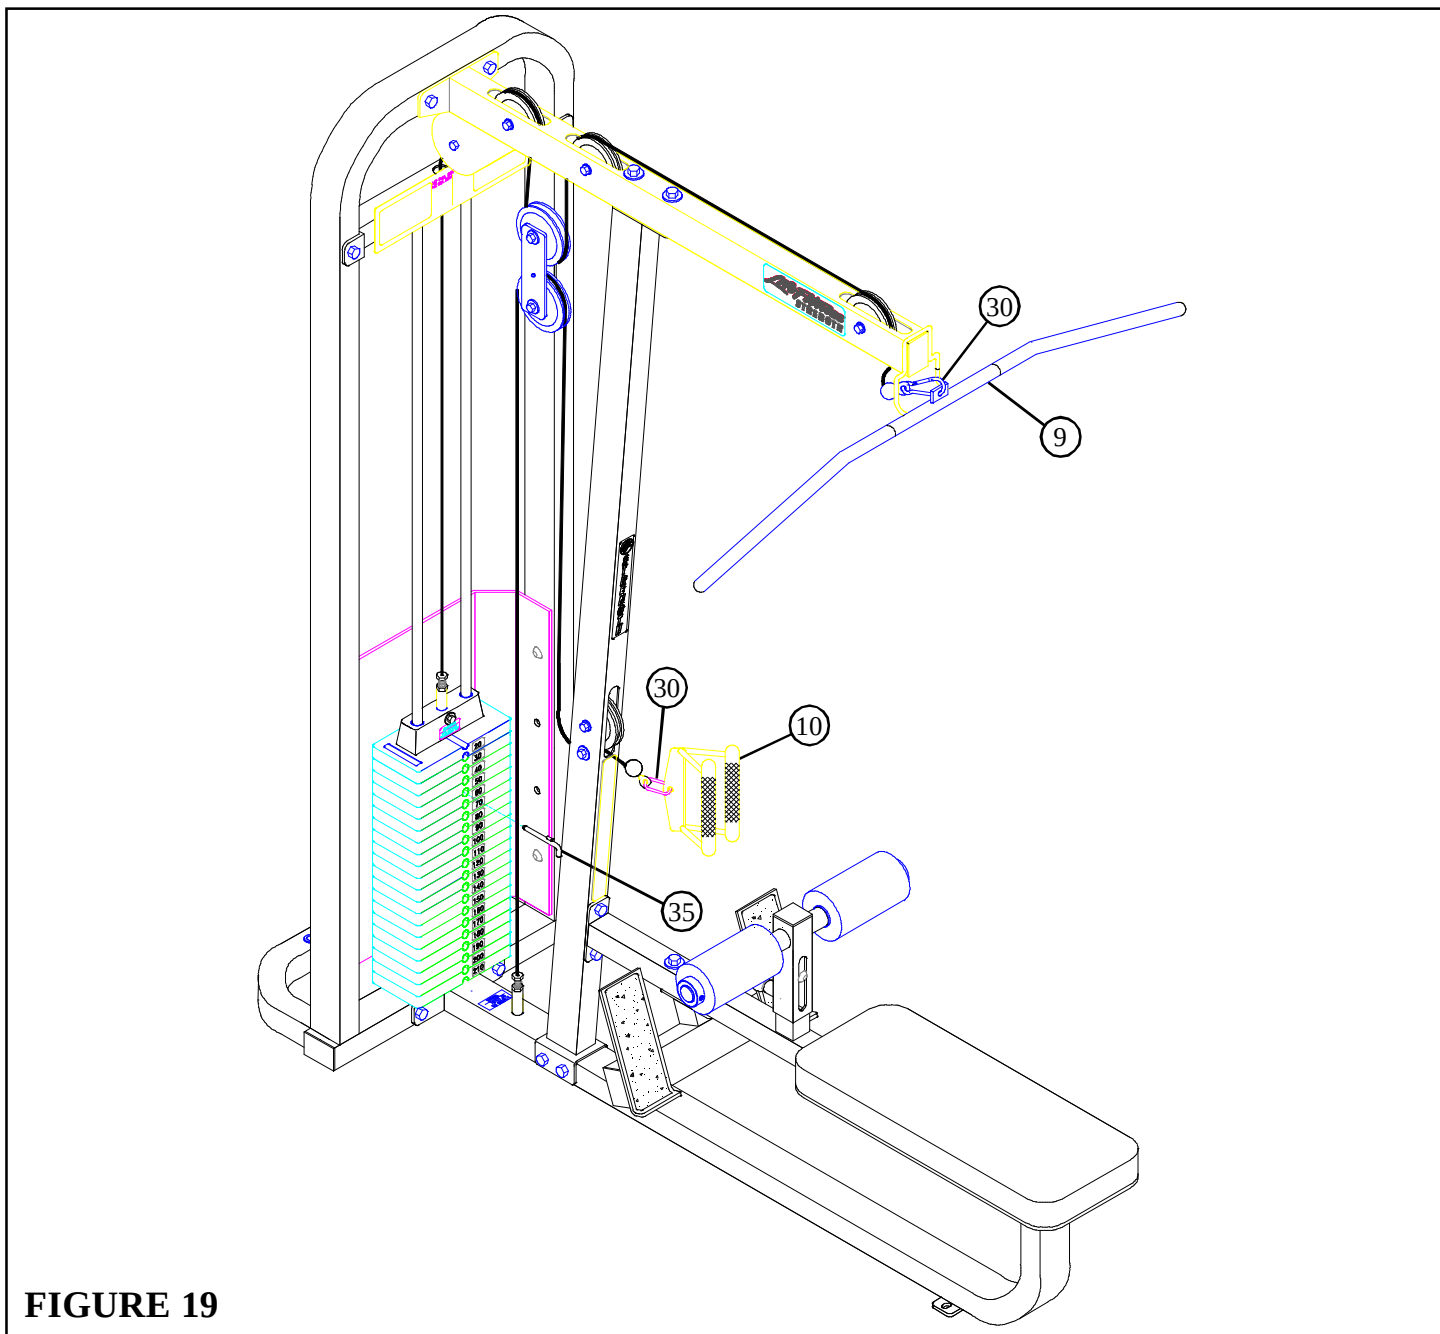

FIGURE 19
- Attach LAT BAR (9) & DOUBLE D CHROME HANDLE (10) to ball ends of cables using two 5/16" SNAP HOOKS (30). See FIGURE 19.
- Insert the SELECTOR PIN (35) into the WEIGHT STACK as shown.
- If the HEAD PLATE (34) does not sit on top of the first WEIGHT PLATE (5), push the head plate down, insert the SELECTOR PIN (35) and perform several repetitions on the machine. This will relax the cable system and prevent the HEAD PLATE (34) from lifting up.
- If after completing previous step the HEAD PLATE (34) still does not sit on top of the first WEIGHT PLATE (36) or if there is excess slack in the cable system, adjust the threaded end of the CABLE accordingly and retighten the jam nut.